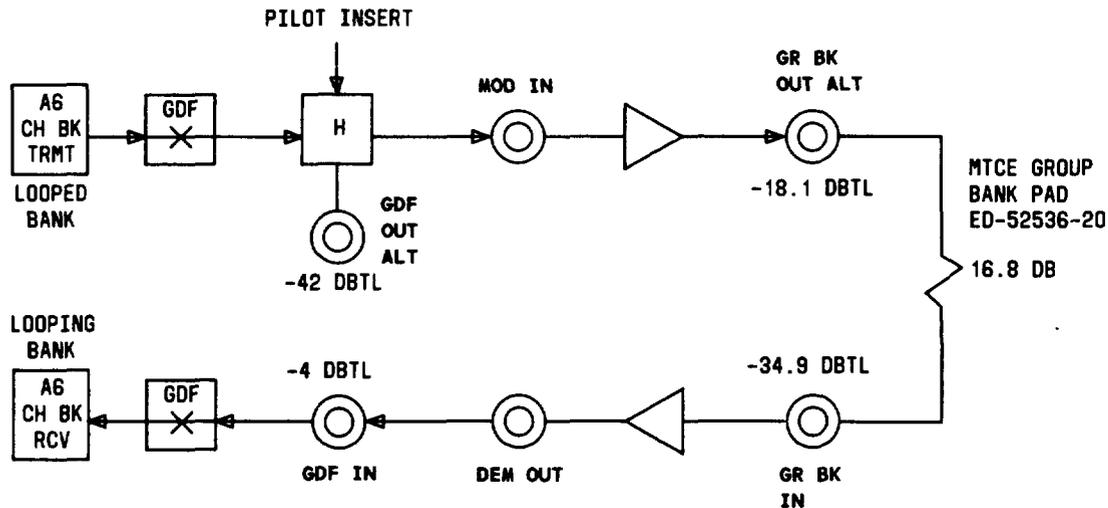
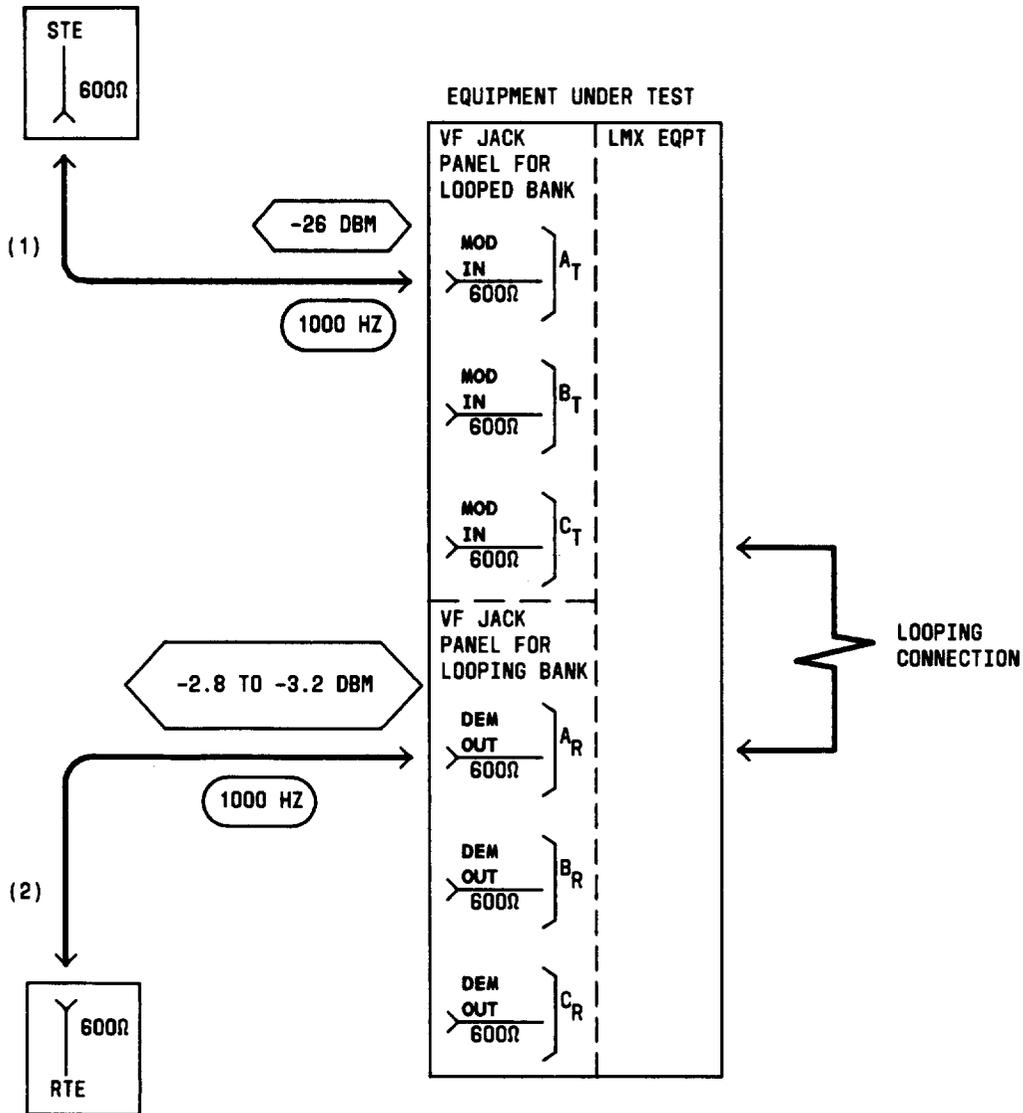

Fig. 13—Typical Channel Bank Equal-Level Cross-Looping Arrangement—LMX-3
Fig. 14—Patching Diagram—Crosstalk Test—Equal-Level Looping—Channel Gain Verification (1000 Hz)
<p>Note 1: See Fig. 11 and ensure that all required looping and test connections are understood before proceeding with this test.</p> <p>Note 2: The transmitting channel (in looped bank) is designated B_T and is the disturbing channel in which tone is sent. Adjacent receiving channels (in looping bank) are designated A_R and C_R and are the disturbed channels in which crosstalk is measured.</p> <p>Note 3: The gain of the transmitting and receiving group equipment should be adjusted as prescribed in applicable sections of the 356 Division.</p> <p>Note 4: The STE and RTE should be calibrated as a test group prior to use at each test frequency.</p> <p>Note 5: If the channel bank under test is equipped with the CFA unit, be sure that the RCV FAIL lamp on the CFA unit is extinguished.</p> <p>Preparation</p> <p>1 Adjust the RTE for a measurement of -3 dBm.</p> <p>2 Adjust the STE as follows:</p> <p style="padding-left: 40px;">Impedance: 600 ohms balanced</p> <p style="padding-left: 40px;">Frequency: 1000 Hz</p> <p style="padding-left: 40px;">Power: -26.0 dBm</p> <p>3 At LMX-2 equipment, make looping connections as shown in Fig. 12(a) or 12(b), as applicable.</p> <p>4 At LMX-3 equipment, make looping connections as shown in Fig. 13.</p> <p>5 Connect the STE to the MOD IN jack for Channel 1 of the looped channel bank under test [Test A, Table E and patch (1), Fig. 14].</p> <p>6 Connect the RTE to the DEM OUT jack for the looping bank for the channel under test [Test A, Table E and patch (2), Fig. 14].</p> <p>7 Observe that the signal power at the DEM OUT jack is -2.8 to -3.2 dBm.</p>
- 8 Remove patches (1) and (2), Fig. 14.